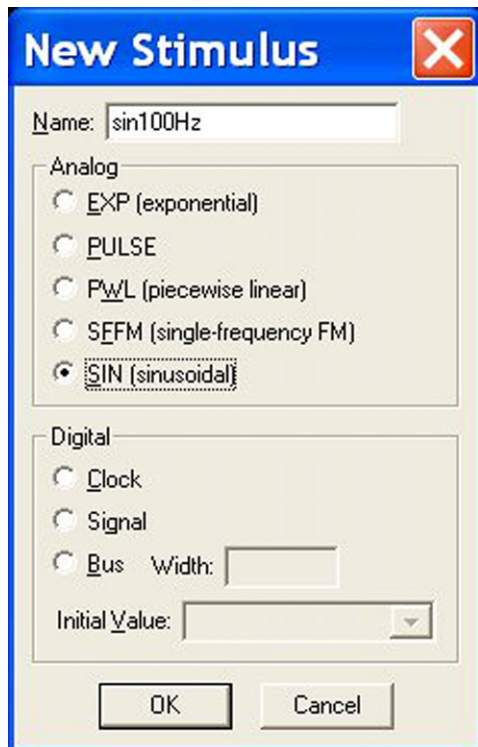

FIGURE 6.18
4. Highlight VSTIM and **rmb > Edit PSpice Stimulus**. In the **New Stimulus** window, name the source as **sin100Hz** and select a **SIN** source (Figure 6.18).